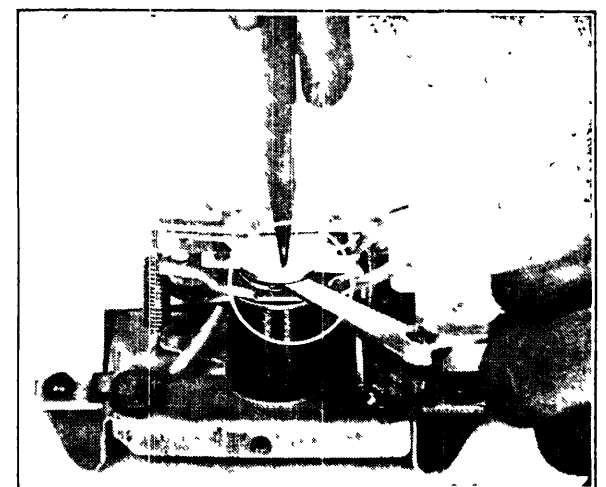

Fig. 2
3. Press down on hinged armature (See Fig. 2), until fiber bumper on end of top regulator contact spring just barely touches the contact spring stop. In this position